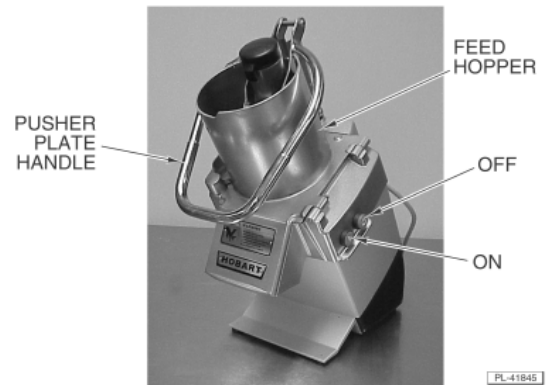

Fig. 6
The pusher plate presses food items against the cutting blades. It is controlled by a large pusher plate handle that wraps around the feed hopper (Fig. 6).
The food processor can be started by pressing the green ON button and stopped by pressing the red OFF button (Fig. 6). The ON button needs to be pressed only if the OFF button is pressed or after connecting the electrical power cord.
4. Move the pusher plate to the right and lower it into the feed hopper (Fig. 6). The food processor will start when the pusher plate enters the feed hopper.